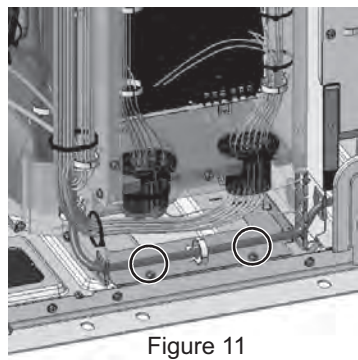

Figure 11
- (14) Unscrew the two screws holding the main control box. (See Figure 11.)